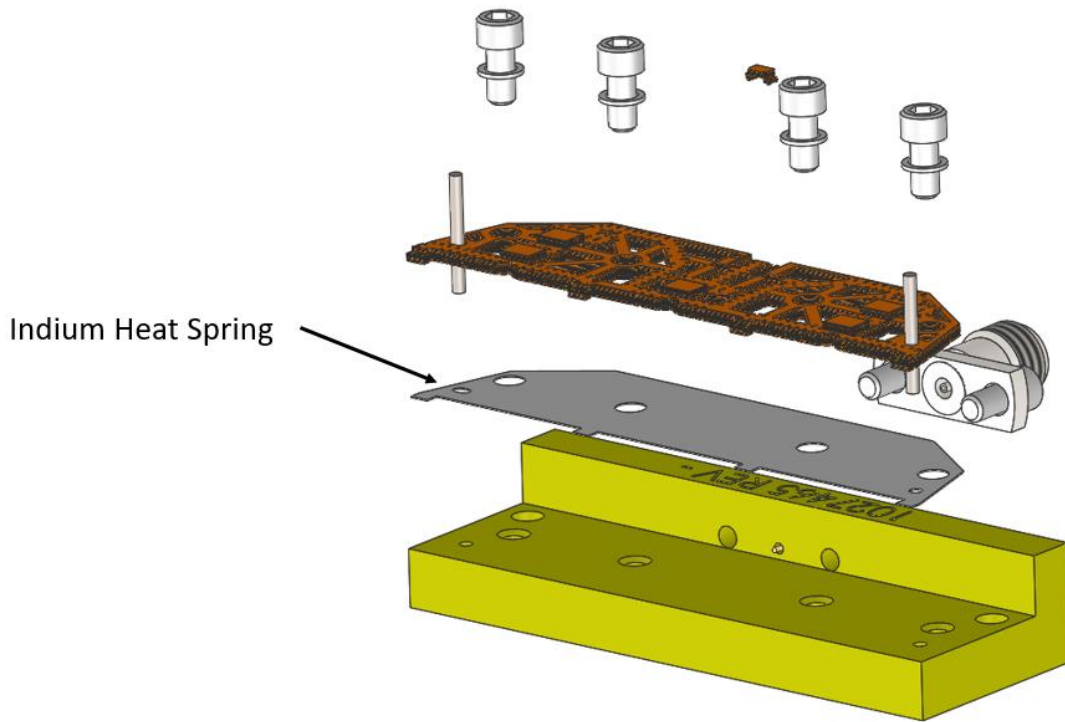

Figure 9: Mounting a PSX12Q12W combiner with Indium Heat Spring® interface
3. Use screws to attach the combiner on top of the foil (see Figure 9). Screw pressure will provide a robust thermal and electrical ground. Screws should be installed “finger tight” first and then torque to spec. Washers up to 0.188” (4.8mm) outside diameter are recommended to help distribute the fastener load and prevent damage to the combiner surface. Typical torque values for the recommended combiner mounting screws are shown in Table 1 below.